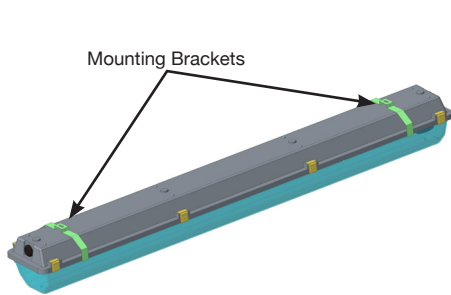

FIG 1
1. Snap the two stainless steel mounting brackets on the back of the fixture (Fig 1).